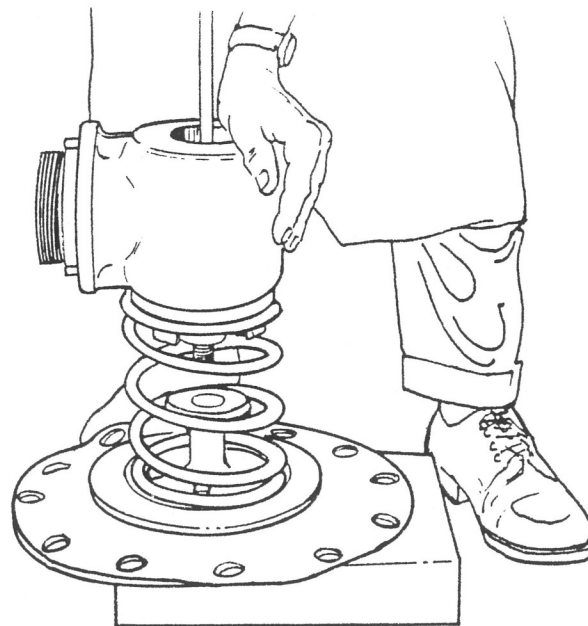

FIGURE 24
- a. Loosen assembly bolt (6).
- b. Compress spring (12) by pushing down on relief valve housing (3).
- c. Remove assembly bolt (6) with socket wrench. This releases guide (7) and
spacer (9). Allow spring to extend. The housing will now lift away from the inside spacer (13) (Fig. 24).
- d. Loosen lower seat (11) with seat wrench.
- f. Loosen and remove upper seat (5) with seat wrench.
- g. Loosen and remove clamp nut (16), diaphragm plate (15) and diaphragm (14).